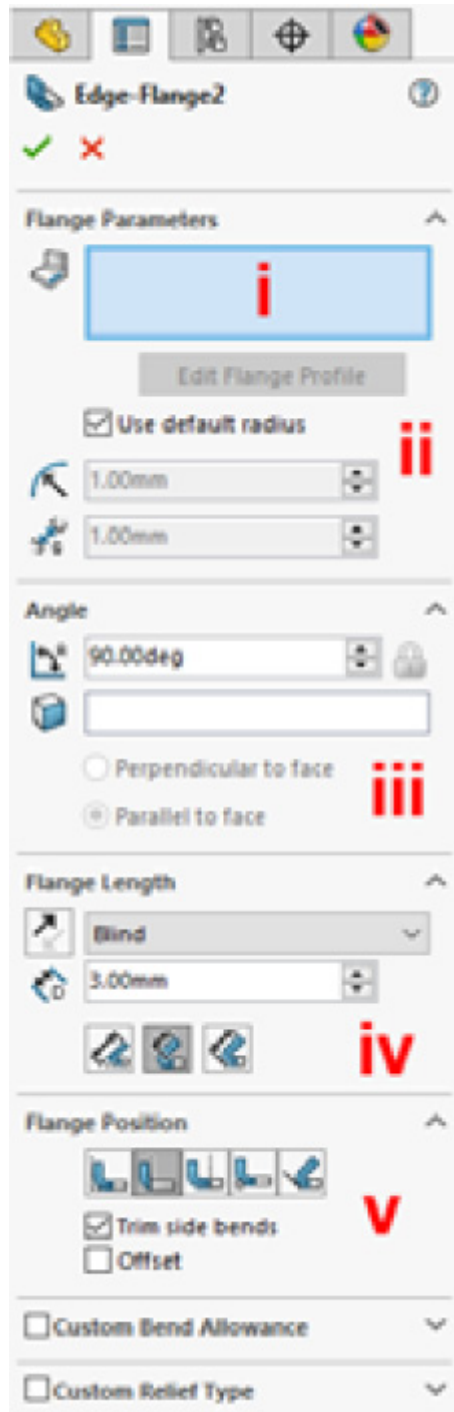

Figure 2.4: The Edge Flange Property Manager
4. Selecting the **Edge Flange** tool will open the **Edge Flange** Property Manager (*Figure 2.4*) and show a number of options. Although they look fairly complicated, not all of them are needed for every flange, and we will cover them step-by-step throughout this chapter.
1. Ensure that you have selected the **Edge** selection box (Figure 2.4, (i)). This will be blue in color when selected.
6. **Bend Radius:** Note that the Bend Radius of the new Edge Flange appears near the top of the Property Manager (*Figure 2.4, (ii)*). This Bend Radius (1 mm in this example) is determined by the global Bend Radius that we sent in the Sheet Metal Properties by editing the Sheet-Metal folder. As a result, all Edge Flanges will automatically use the default Bend Radius value.
7. **Bend angle:** Next, we can set the angle that the Edge Flange is bent at (*Figure 2.4, (iii)*). Try adjusting the angular value and see how the yellow preview also changes to match.
9. **Flange Length:** Another important aspect of an Edge Flange is its length (*Figure 2.4, (iv)*). This can be set as a Blind value (extruded in one single direction) or using the different end conditions from the drop-down menu, if creating more complex **parts**.